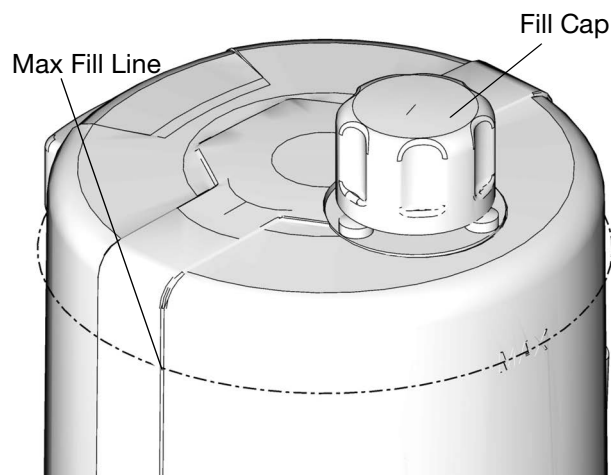

FIG. 20
- No not overfill (FIG. 20).
1. Remove the fill cap (FIG. 20).
2. Pour the oil into the reservoir to the max fill line (FIG. 20).
3. Replace the fill cap, and hand tighten, securely (FIG. 20).